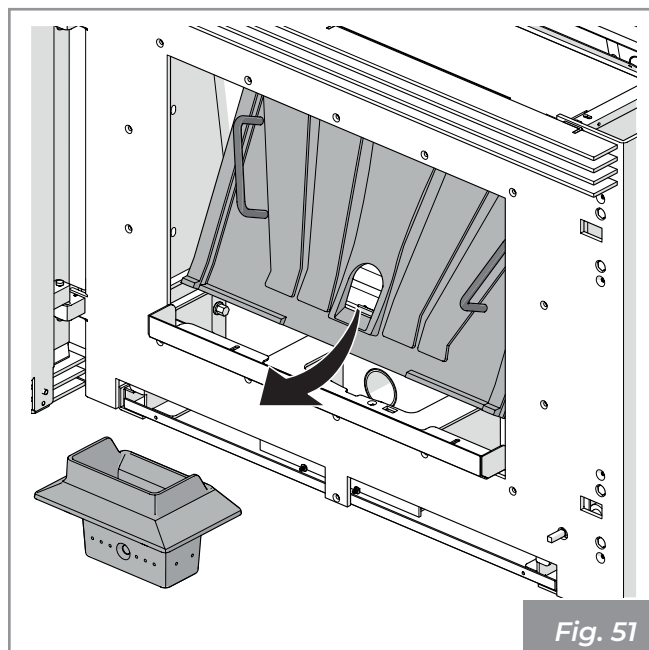

Fig. 51
- Grasp the bottom wall by the handles and pull it out by pushing it upwards and then turning the bottom part outwards (Fig. 51).